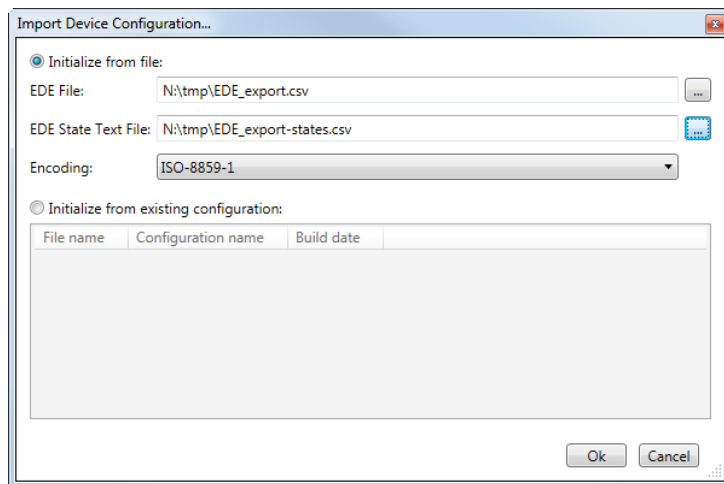

Figure 70: Import BACnet Device Configuration
- **Import device configuration:** Choose this option if the device is offline. You can either import an EDE file and the corresponding state text file or assign the configuration of a different device (see Figure 70). The latter option is useful if you have multiple devices with identical configuration.